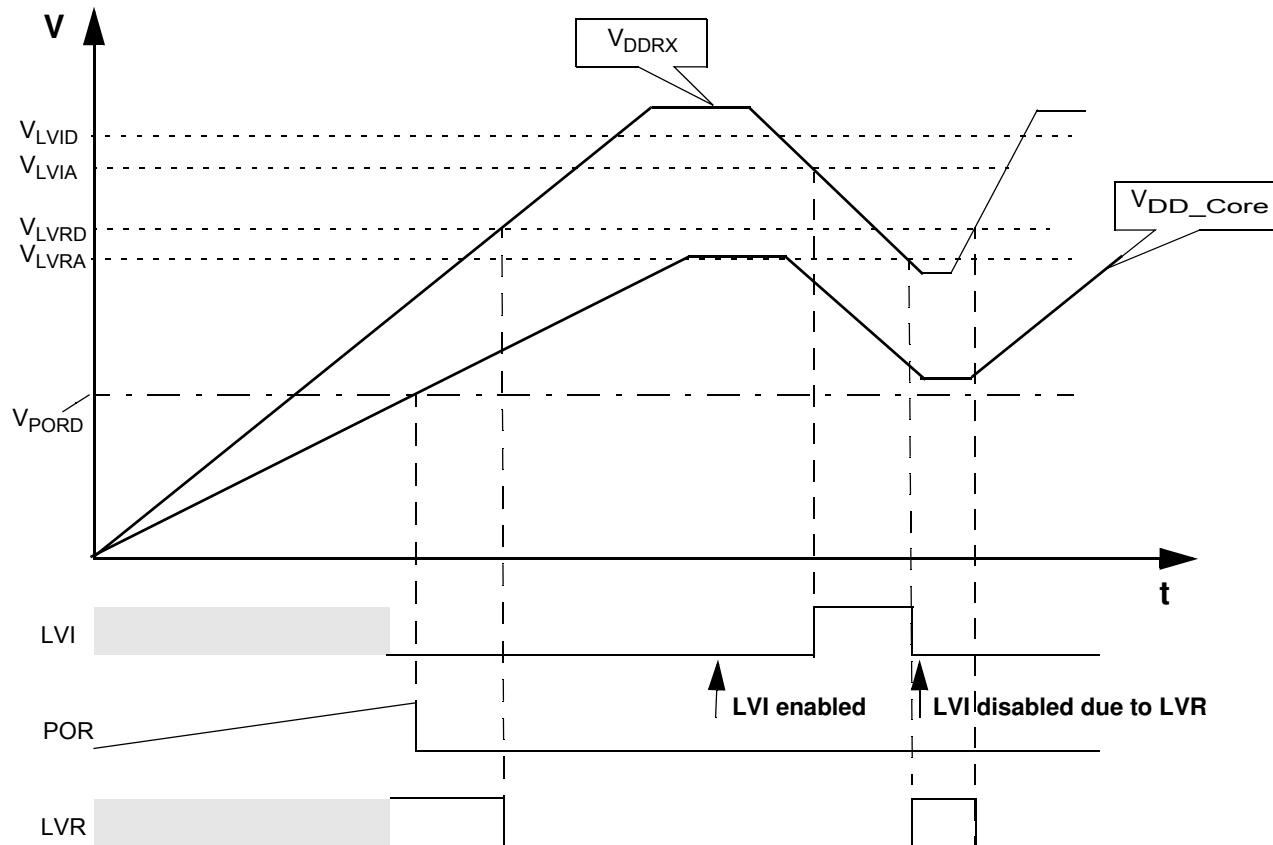

Figure 4. MC9S12I32 - Chip Power-up and Voltage Drops (not scaled)
34. Monitors VDDRX, active only in Full Performance mode. MCU is monitored by the POR in RPM (see Figure 4).